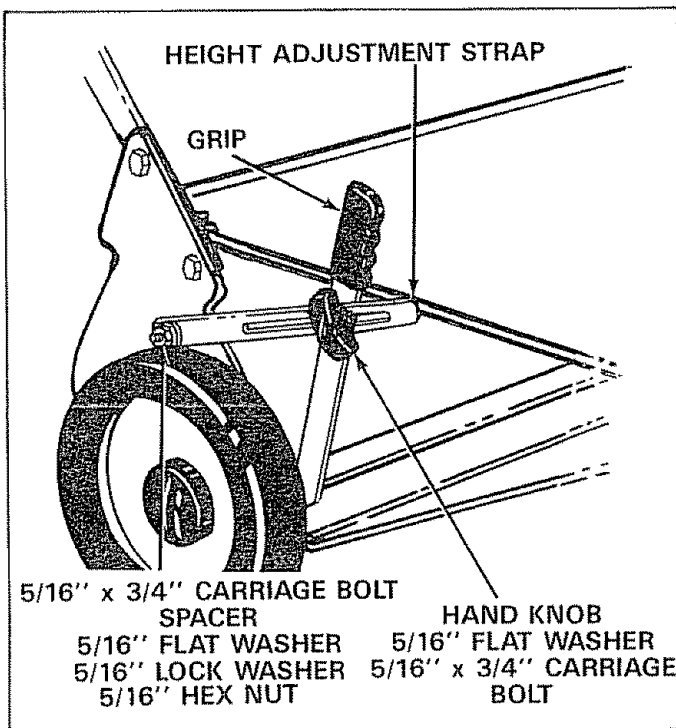

FIGURE 7
- Assemble the height adjustment strap (hole end) to the sweeper housing. See figure 7. Place 5/16" x 3/4" carriage bolt through the square hole in right hand side of sweeper housing. Next place spacer into large hole on strap and over end of carriage bolt. Secure with 5/16" flat washer, 5/16" lock washer and 5/16" hex nut. See figure 7
- Assemble other end of height adjustment strap to height adjustment handle. See figure 7. Place slot on strap in line with square hole in height adjustment handle. Secure strap with 5/16" x 3/4" carriage bolt, 5/16" flat washer and hand knob. See figure 7. **NOTE: Lightly coat slot with grease for ease of adjustment.**
- Assemble the grip, with finger knobs as shown, to the height adjustment handle. See figure 7.